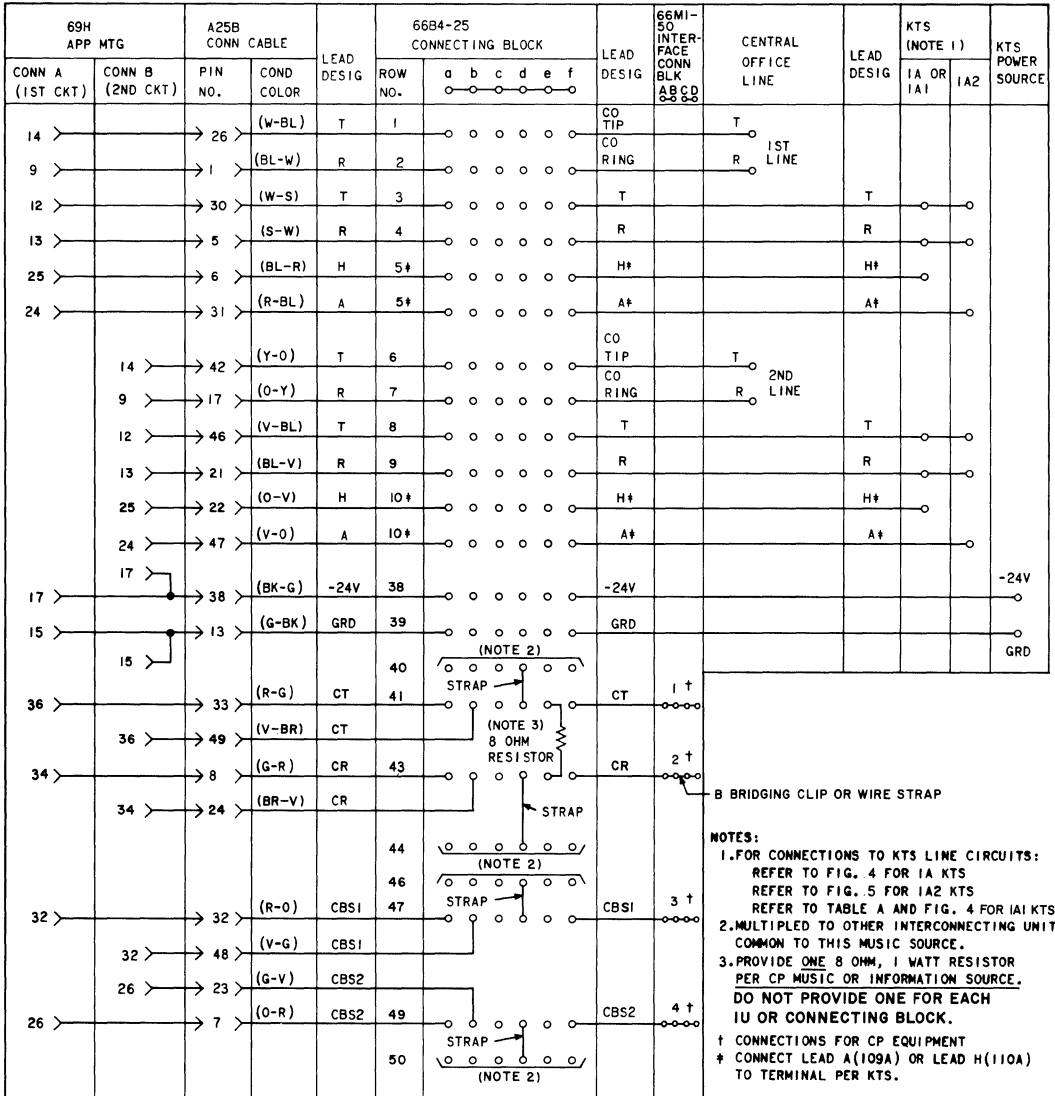

Fig. 6—Connections for Voice Connecting Arrangement LVH Using 69H Apparatus Mounting
**6.01** ◆ Provide straps on the 66B4-25 connecting block(s) between terminals 40 and 41, 43 and 44, 46 and 47, and 49 and 50 as shown in Fig. 6 and 7.◆
**6.02** Place a KS-14603, L3A, 8-1/4 ohm resistor or 8-ohm 1-watt resistor (furnished locally) across CT and CR leads to CPE at the 66B4-25 connecting block (see Fig. 6 and 7). The resistor should have pigtailed no larger than 19 gauge to connect in the quick-connect clip-type terminals.
**6.03** For connection information when using the 69H apparatus mounting, refer to Fig. 6, 8, and Table A.